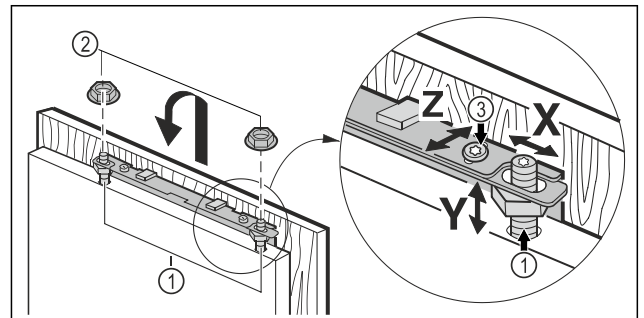

Fig. 23
- ▶ Hang the unit door on the adjustment bolts Fig. 23 (1) and screw the lock nuts Fig. 23 (2) loosely onto the adjustment bolts.
- ▶ Align the height Y and lateral inclination of the unit door: Set the adjustment bolts Fig. 23 (1) with a screwdriver.
- ▶ Tighten the lock nuts Fig. 23 (3).